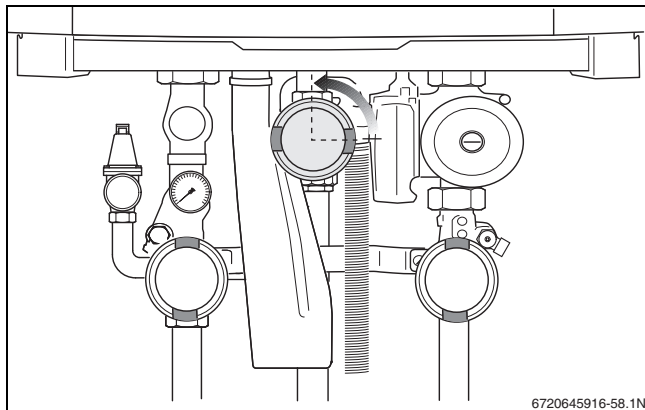

Fig. 61 Opening the gas valve
- ▶ Slowly open the gas valve by pushing on the gas valve and turning it counterclockwise through $\frac{1}{4}$ rotation (→ fig. 61). The gas valve is open when it is in the vertical position.
- Slowly open the gas valve by pushing on the gas valve and turning it ¼ rotation in an counterclockwise direction (→ fig. 61, page 36). The gas valve is open when it is in the vertical position.
- ▶ Slowly open the gas valve by pushing on the gas valve and turning it ¼ rotation in an counterclockwise direction (→ fig. 61).